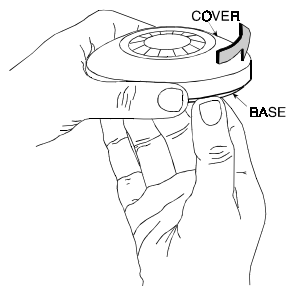

Figure 3 - Installing the Cover
D. Mount the base (equipped with the printed circuit board) in the location selected for optimum coverage. Using the two mounting holes at the back of the base fasten the unit firmly to the mounting surface to avoid possible vibrations. ( Figure 3).